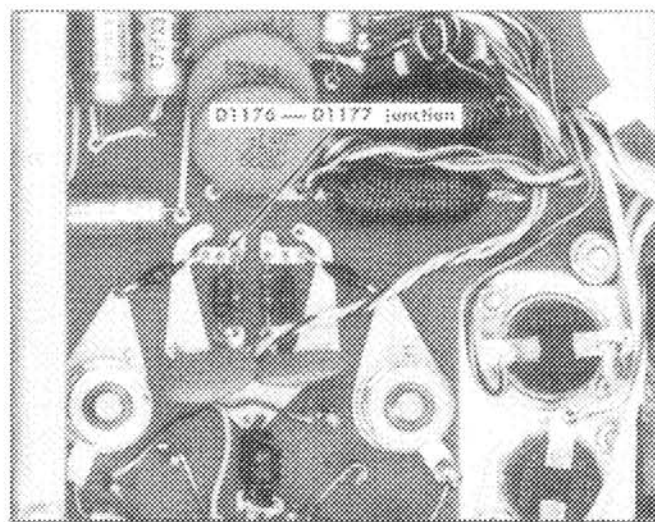

Fig. 6-4. (a) Power supply input voltage measuring test points. (b) Test oscilloscope probe connection.
- c. Connect a 1X probe from the test oscilloscope to the junction of D1176 and D1177 (see Fig. 6-4).